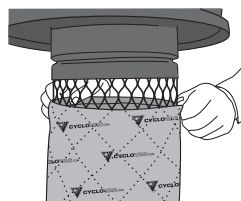

figure 15
3. It is important that both filters be completely dry before they are reinstalled. They should be carefully installed in the support grooves (**figure 15**) on the filter frame to ensure adequate protection for the motor. Install the Cyclofiltre (thick fabric) first, and the anticlogging filter (thin fabric) over it.